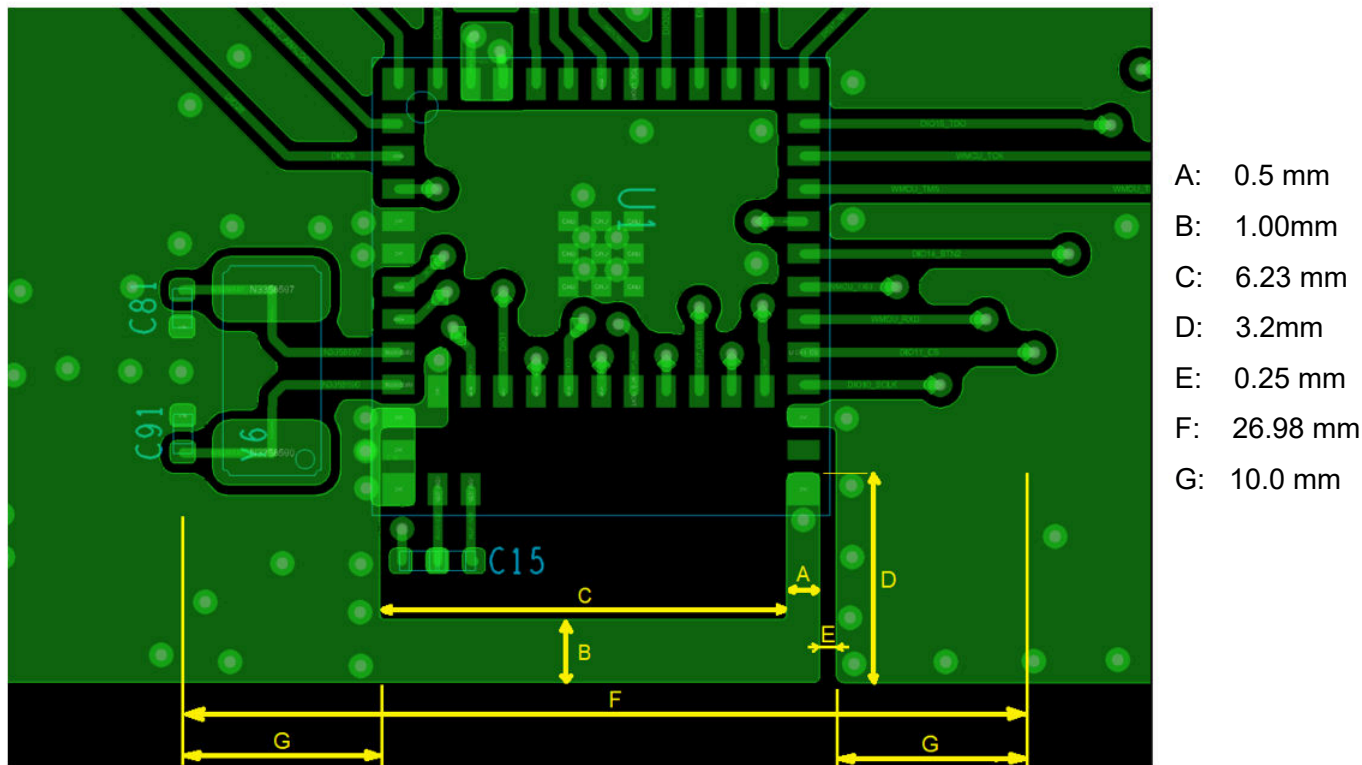

图 10-4. Module Layout Guidelines
It is critical that the RF section be laid out correctly to ensure optimal module performance. A poor layout can cause low-output power and sensitivity degradation. 图 10-4 shows the RF placement and routing of the CC2651R3SIPA module with the 2.4-GHz integrated antenna.
- Dimensions A thru G in 图 10-4 must be strictly adhered to for optimal RF performance
- The module must have a minimum 10-mm ground plane on either side of the module on all layers as shown with dimension G in 图 10-4